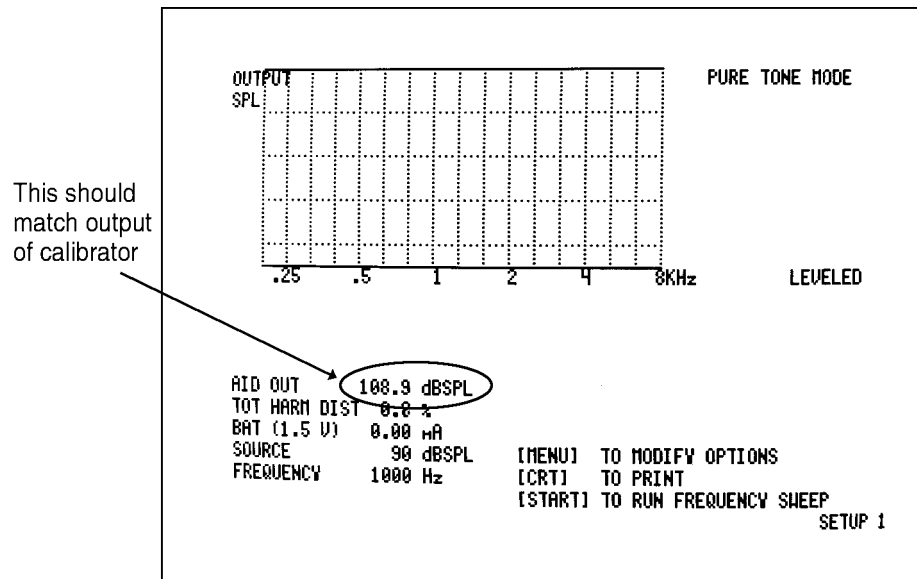

Figure 2.6.2B—Example of M1550E microphone out of calibration.
6. Read the SPL from the M1550E on the video monitor (next to AID OUT). The displayed reading should agree with the stated output of the calibrator (in the case of the Quest QC-10, this is 114 dB). See Figure 2.6.2B.